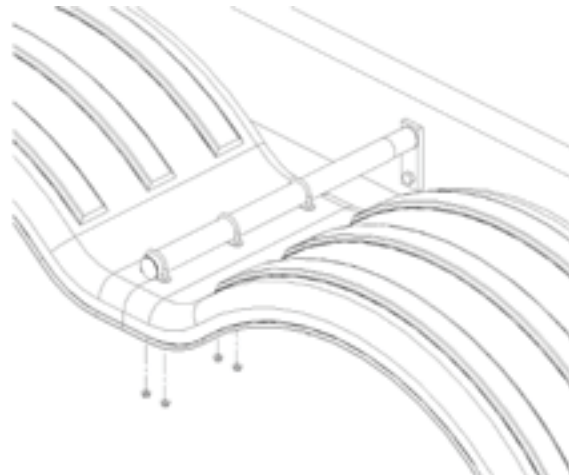

Figure 7
- D. Mount the center bracket anywhere in-between the tandem. The center bracket will lay on the flat piece between the fenders. The center bracket will hold the two fenders together. See Figure 7.